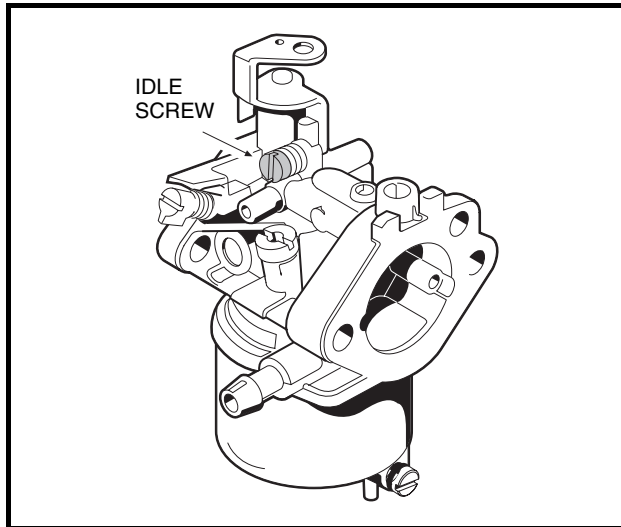

Figure 14-7 Idle Screw
1. With the engine running and the Forward/Reverse handle in the NEUTRAL position, attach a tachometer (CCI P/N 1016112) to the spark plug wire and adjust the low idle screw on the carburetor until the tachometer reads 1200 to 1250 RPM (**Figure 14-7, Page 14-10**).